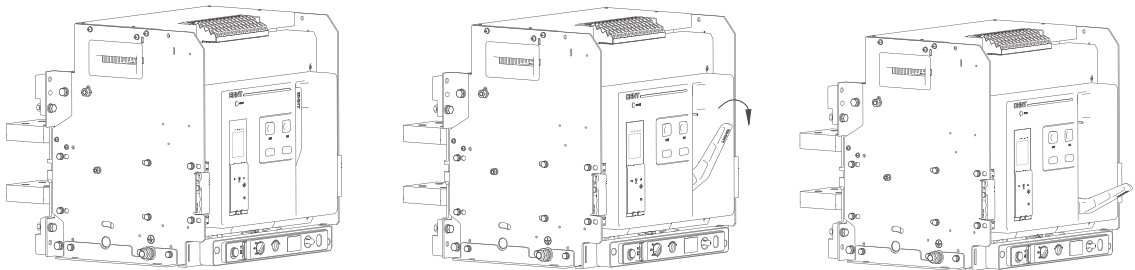

Fig55 Energy Storage by Manual
7.4.2.1 Manual energy storage: When storing energy, move the energy storage handle up and down repeatedly six to seven times until a click is heard. When the hand does not feel the reaction force and the energy storage indicators indicates "energy stored", the energy storage ends, as shown in Figure55.